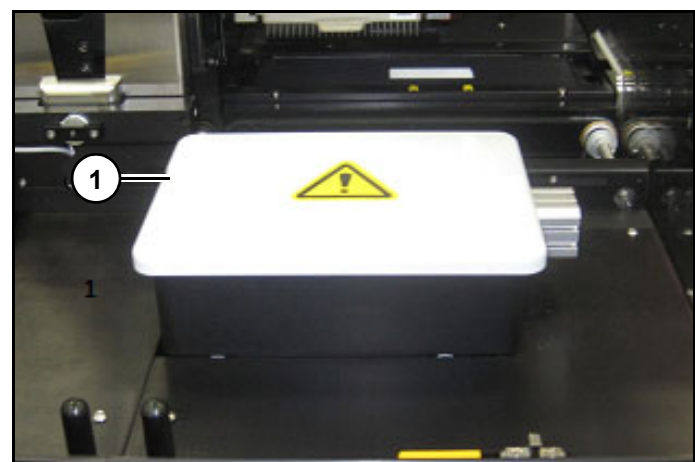

Figure 8
4. Place cover (1) (*Figure 8*) over pipette wash basin.